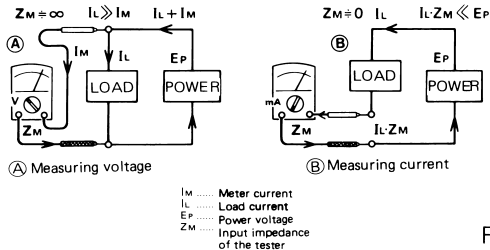

Fig. 1
Fig. 1 (A) is a standard measuring way of voltage while Fig. 1 (B) a standard measuring way of current. Voltage measurement is to detect the potential difference between two points, so the voltage range must be connected in parallel with measured circuit.
- Connect the tester range in series with measured circuit through load as Fig. 1 . Be sure not to apply any voltage to DCmA ranges.